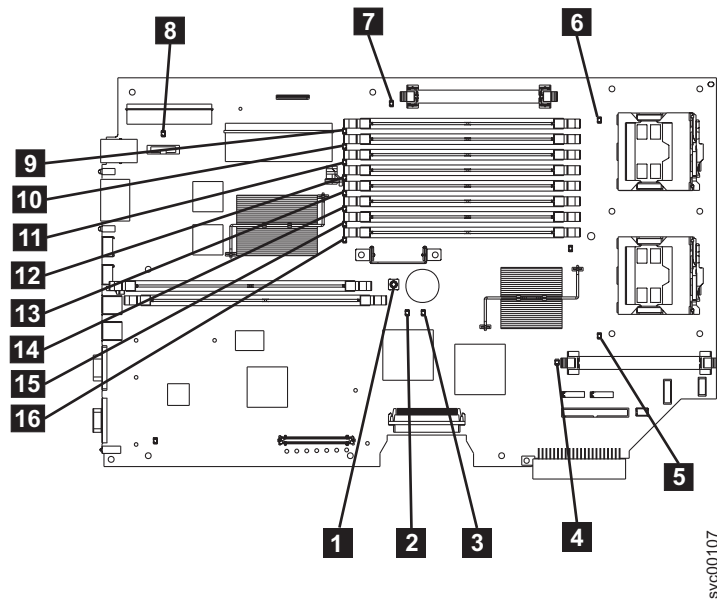

Figure 61. The SAN Volume Controller 2145-8F2 or SAN Volume Controller 2145-8F4 system board
- YES** Refer to Table 22 on page 311 and perform the action specified for the specific light path diagnostic LEDs, then go to step 3 on page 313. Some actions will require that you observe the state of LEDs on the system board or on the fan backplanes. The location of the system board LEDs are shown in Figure 61 on page 311. The fan LEDs are located adjacent to each FAN. To view the LEDs you will need to do the following:
- d. Press the light path diagnostic button **1**. See Figure 61 on page 311.